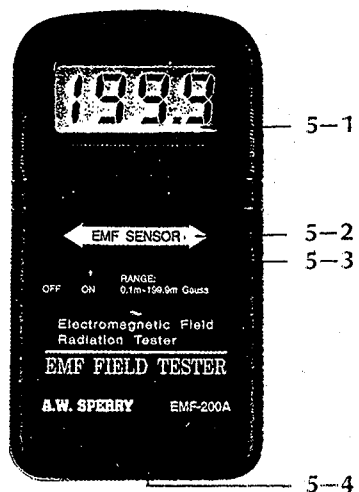

Fig. 1
(1) Place the Off/On Switch (5-3 Fig 1) to "On" position. The tester is now ready to take measurements.